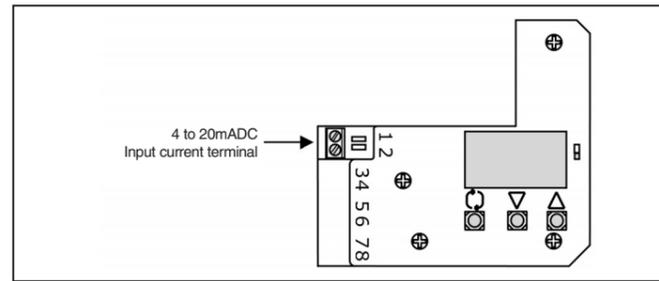

Fig. 8
- (1) Remove the positioner body cover.
- (2) Connect the input current wiring from an adjusting meter (controller) following Fig. 8.